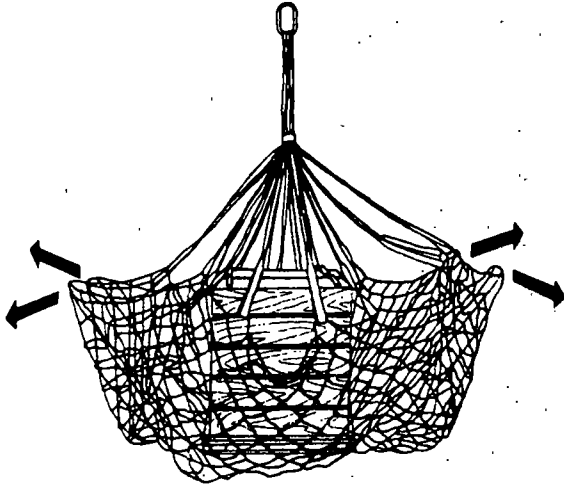

Figure 7-10. Net Pulled Outward from the Load
Step 7 - Lift the sides of the net up while taping the legs so that the net does not get caught on the pallet or load protrusions (Figure 7-10).